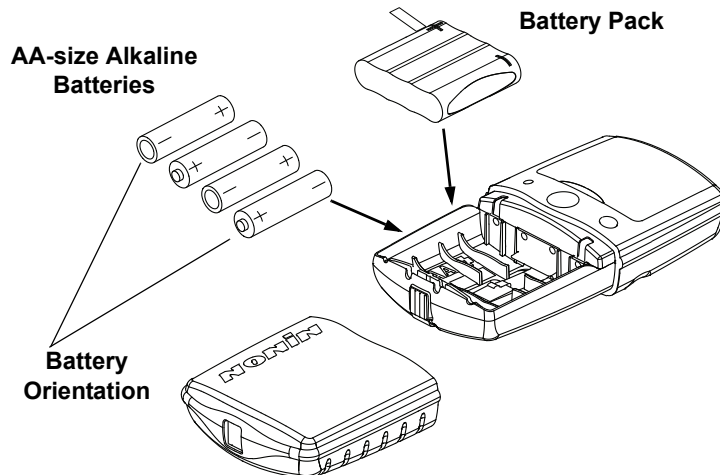

Figure 3: Installing Batteries
2. Insert 4 new AA-size alkaline batteries or a rechargeable NiMH battery pack. Be sure to insert the batteries in the correct position, as indicated by the polarity markings (+ and -) inside the battery compartment (figure 3).